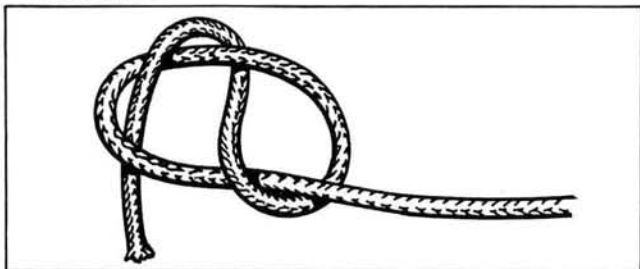
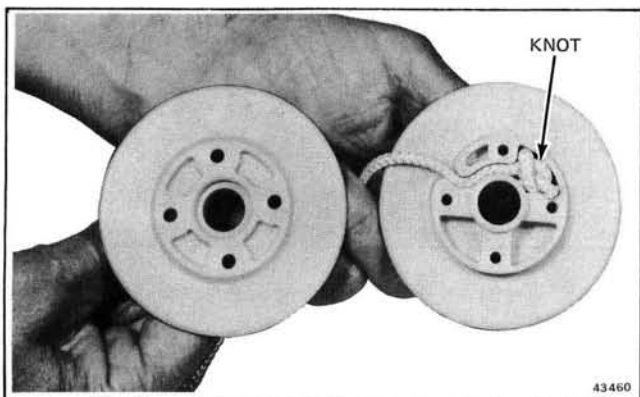

Figure 8-8. Rope Knot Formation
Figure 8-8A. Rope Knot Installed in Pulley
6. Tie knot in one end of rope (see Figure 8-8) and engage knot in pulley. See Figure 8-8A. Assemble pulley and torque screws to specifications. See Section 2.